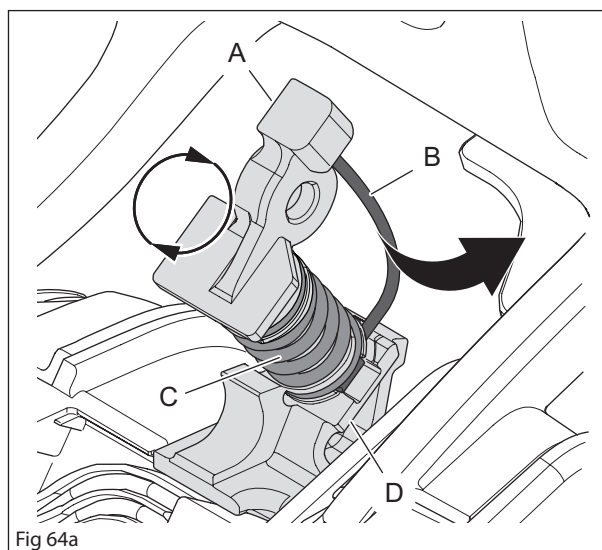

Fig 64a
6. Remove the safety wire (B). See Figure 64a.
7. Twist the upper spring holder (A) and anti-vibration element (C) until it separates from the lower spring holder (D). See Figure 64a.
The whole antivibration section (A, B, C and D , see Figure 64a) can be removed.